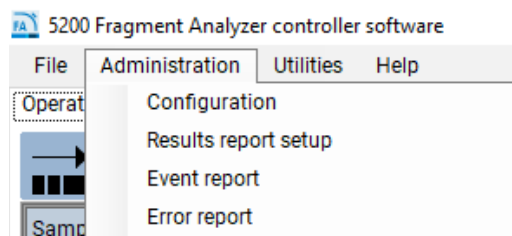

Figure 88 Admin menu
- 1 From the **Administrator** drop-down menu, select **Results Report Setup** (Figure 88).